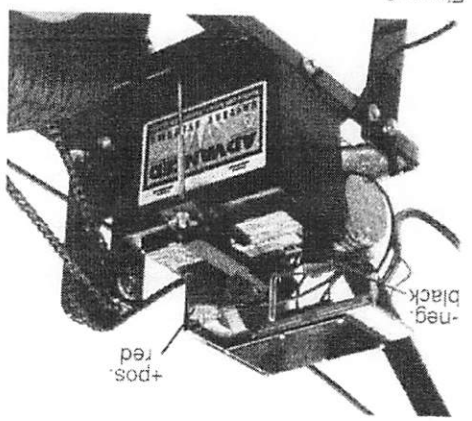

Figure 3
4. Place the battery into position on the frame between the two bolt holes and place the battery hold down clamp on top of the battery (See Figure 3).
5. Slip the battery protective covers over the battery cables. Position the battery bolt facing forward on the positive post, to keep it from coming into contact with the motor bracket (See Figure 3).
6. Connect the battery cables to the battery with the red cable to the positive and the black cable to the negative (See Figure 3).